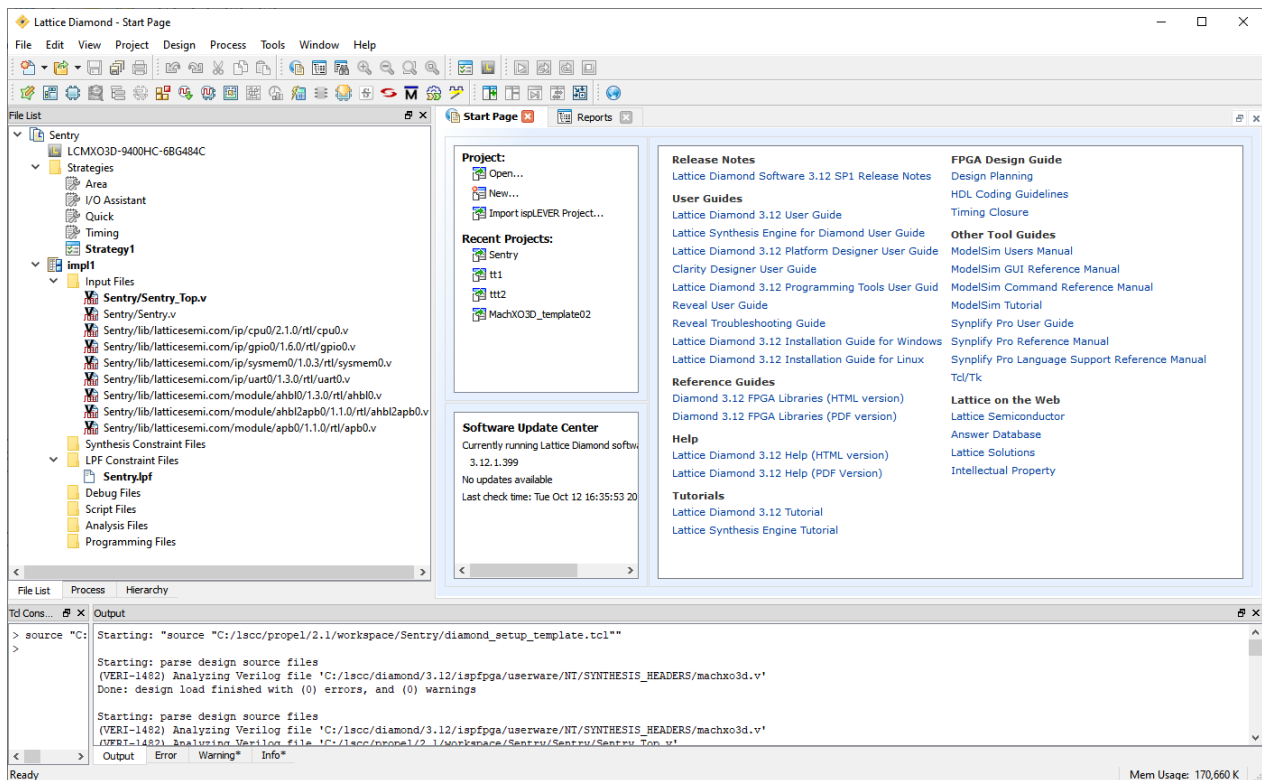

Figure 2.131. Diamond Project
- Lattice Diamond is launched with a Diamond project generated for SoC at the background (Figure 2.131).